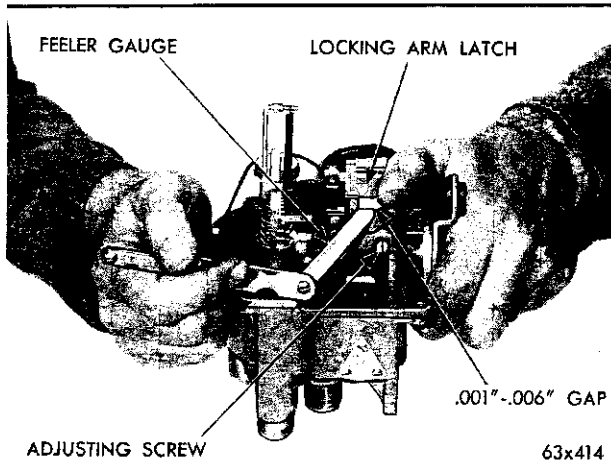

Fig. 29—Locking Arm Latch Adjustment
(4) Move the locking arm up against the magnet and press down on the armature plate to latch the unit (simulating automatic control).
(5) Use a feeler gauge to measure the gap between the locking arm and the latch on the armature plate (Fig. 29). This gap must be between .001-.006 inch. If the gap is not within specifications, adjust the gap by turning the adjusting screw counter-clockwise to increase the gap or clockwise to decrease the gap.